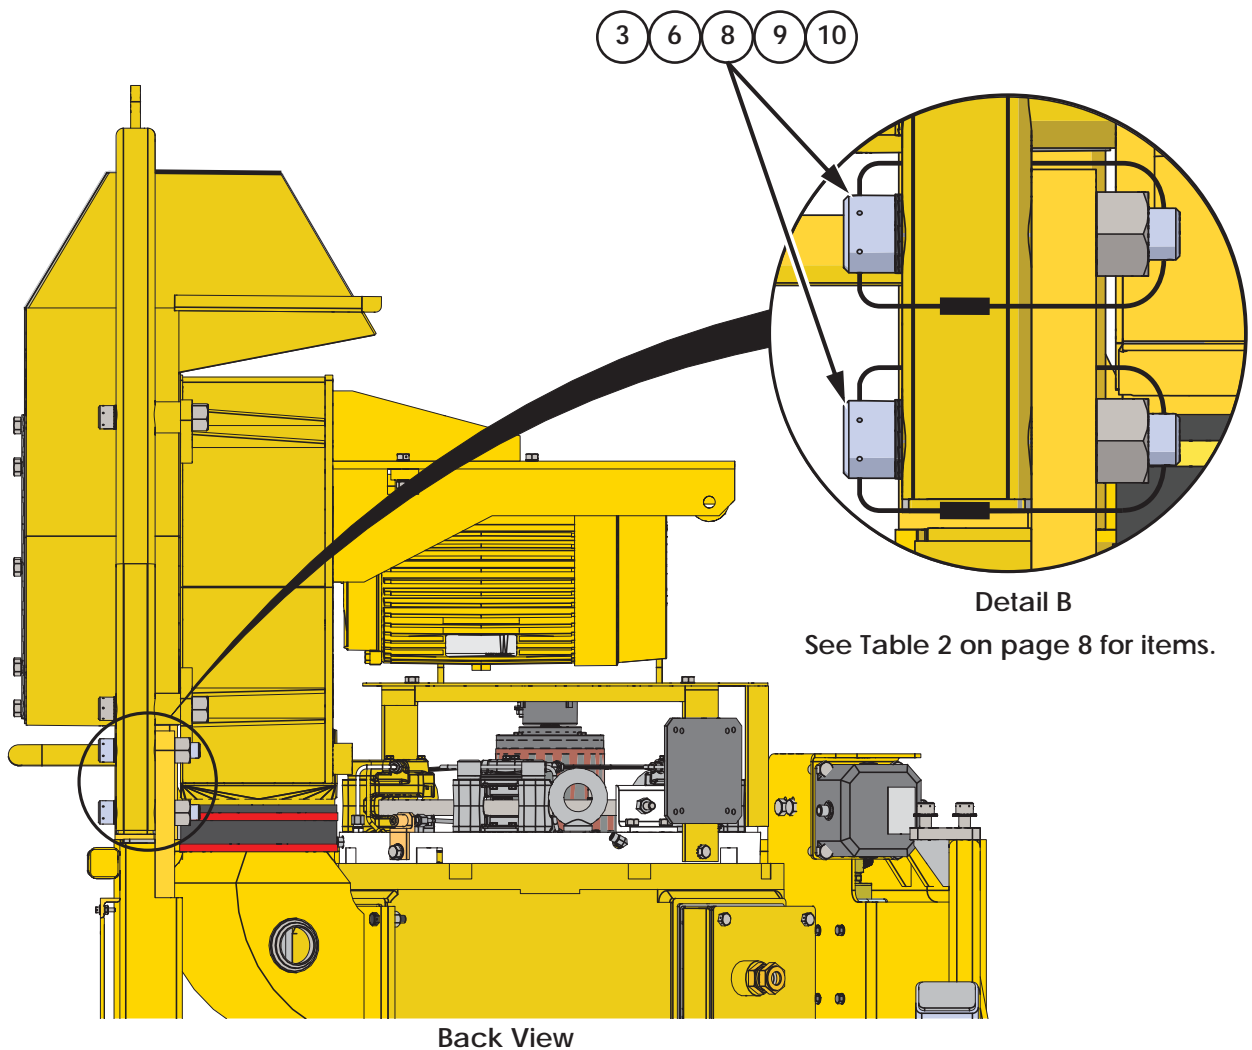

Figure 9: Detail B - Back View
- Install item 1 (P10576-X) Blower to top drive guard with fastening hardware (items 3, 4, 6, 8, 9 and 10) as shown on Detail A on Figure 8 and Detail B on Figure 9 on page 11.
- Torque item 3 (DT33867, 1-8UNC x 5 1/2" long capscrew) to 848 ft-lbs. Install retaining wire item 9 (M21-2000-010) through head and shank of the fasteners as shown on Figure 9, Detail B and crimp with item 10 (M19-3006-010) without any slack. Retaining wire must wrap around the square tubing of the top drive guard as shown on Figure 9, Detail B to prevent objects from falling in the event of a failure of the fasteners. See Figure 9 for reference.